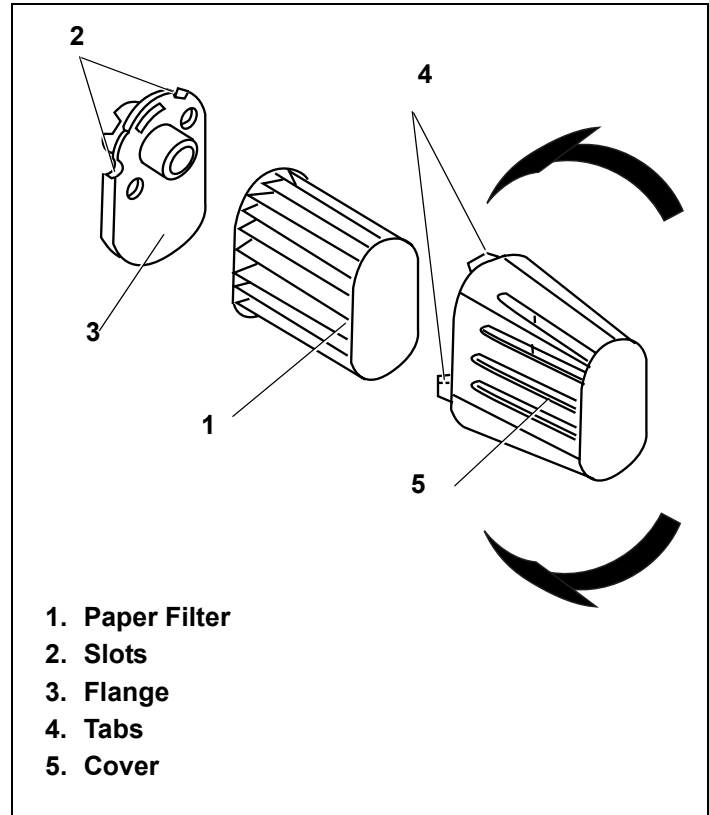

Figure 52. Air Cleaner Type “E” Assembly
1. Turn cover to right (clockwise) to remove. See Figure 52.